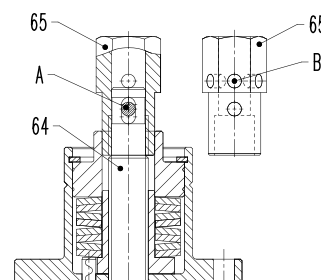

Figure 7-7
5. Place hexagon head (65); see «Figure 7-7», on the spindle (64) and fix it with following dowel pin (A) at the following diameter: